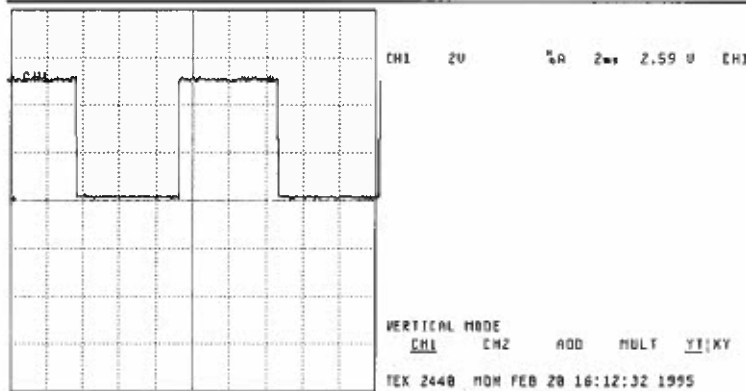
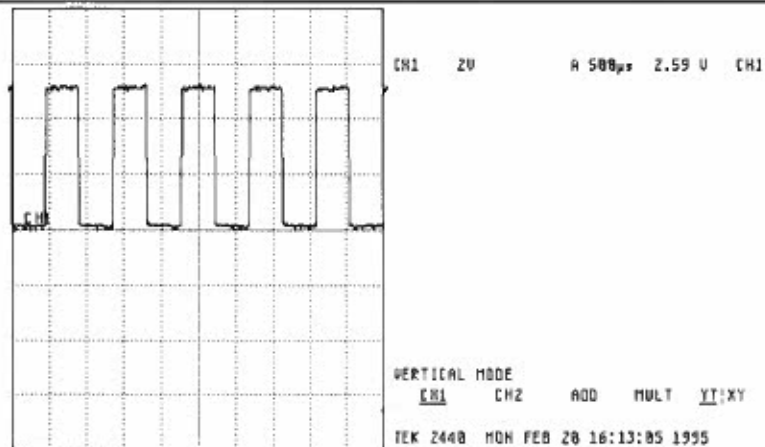

Figure 5
Figure 6
- q. TRANSMIT CHECK: This procedure will require two Signal Generators set to a 5Vpp level and set DC offset to 0. Connect up both signal generators through a 392 ohm resistor. Jumper TP44 to TP31 and TP43 to CH12. The downward slope in Figure 7 is now a constant at 2.5Vdc. Set one signal generator to 100Hz as illustrated by FIGURE 5 and connect the positive lead to JR25. Set the other signal generator to 1KHz as illustrated by FIGURE 6 and connect the positive lead to JR23. Connect the Commons of the signal generators together to COM. With both AC and DC power on, move the scope ground to TP23 of the isolated power supplies and observe TP44 with the scope and observe the waveform of FIGURE 7. Observe the inverted form of TP44 on TP43.